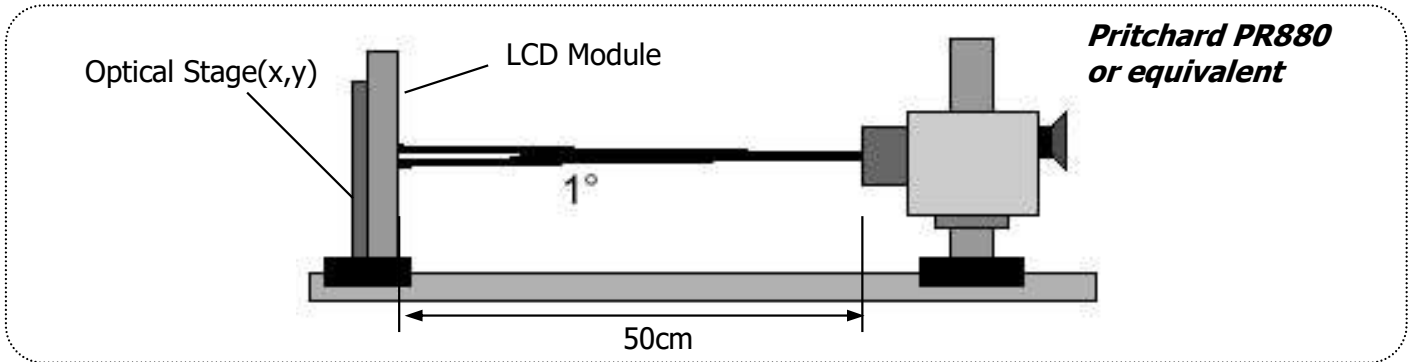

FIG.4-1 Optical Characteristic Measurement Equipment And Method
FIG.4-1 presents additional information concerning the measurement equipment and method.
- 2) **Surface Luminance(L_{WH})** is the luminance value at center 1 point(1) across the LCD surface 50cm from the surface with all pixels displaying white. For more information see FIG.4-1. **(By PR880)**